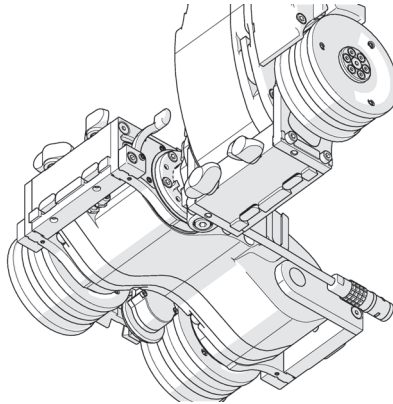
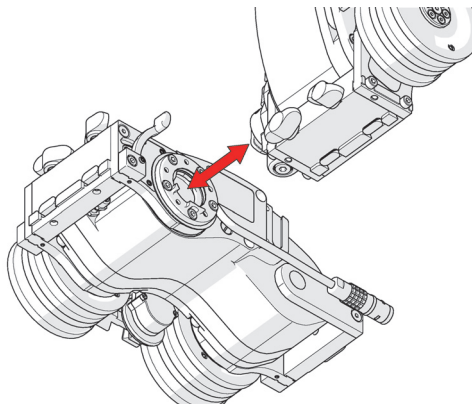

Figure 2-24 Rotate modules to 90°
Figure 2-25 Pull modules apart
2. Continue rotating the two modules until they are 90° perpendicular (see Figure 2-24 on page 65), and then gently pull the two modules apart (see Figure 2-25 on page 65).